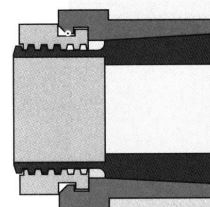
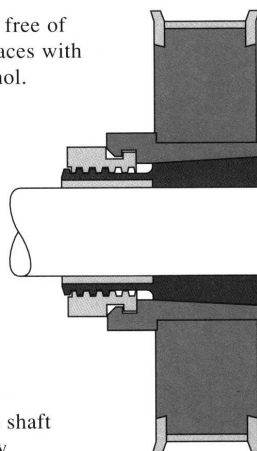

Figure 1
Figure 2
**Warning: The shaft must fully engage the shaft gripping area (Figure 1) of the Trantorque GT unit. Figure 2 illustrates minimum shaft engagement.**